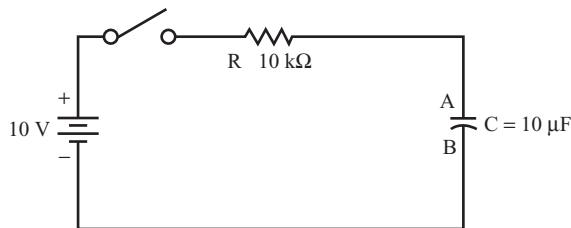

FIGURE 1.15
The capacitor shown in Figure 1.15 charges when the switch is closed.
B. What is the time constant for the circuit shown in Figure 1.15? _____
A. What is the voltage on plate A and plate B of the capacitor in Figure 1.15 before the switch is closed? _____